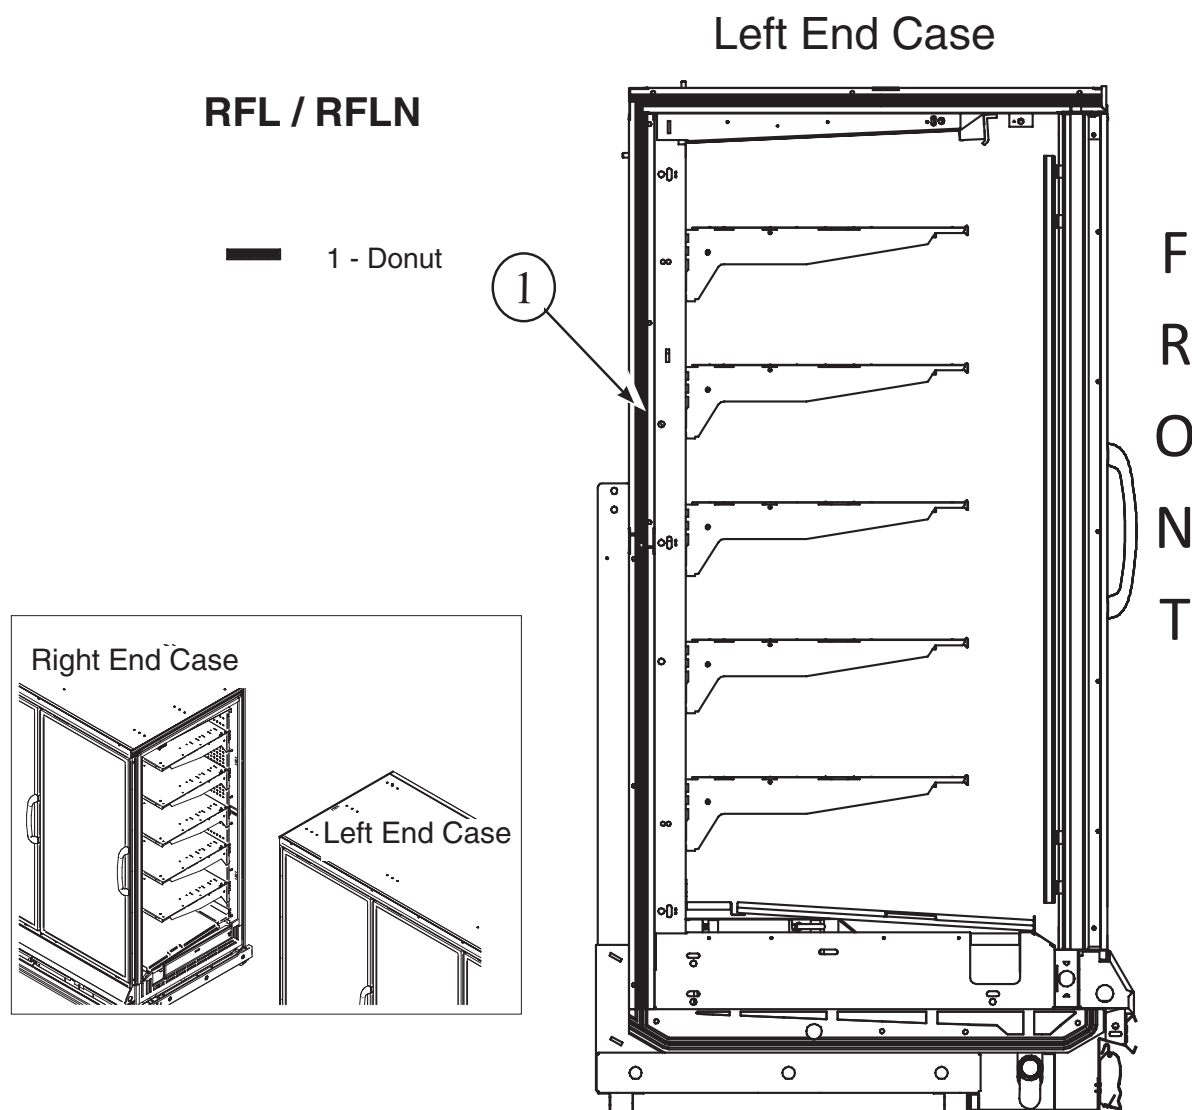

Figure 5A Apply Gasket to Left End
- 5** Apply Donut Gasket – 1 in recess around both left end and right end as shown in Figure 5A and 5B (5B shown on next page).